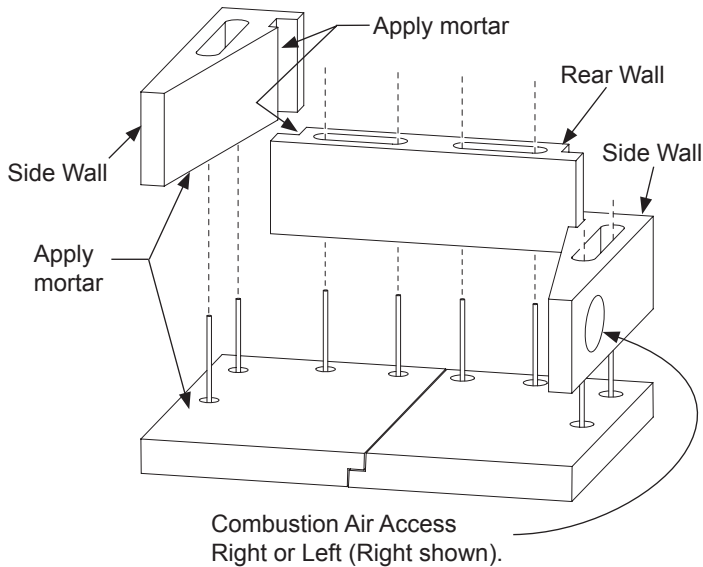

Figure 38 - Layering walls and sides for MM33,39,44,49
6) Assembly the first layer as shown in Figure 38 and 39. Continue to the next layer sides and rear pieces, keeping components moist, mixing mortar as you need it and threading the mortar appropriately as you stack each section, one onto the next. Constantly check for squareness and levelness while building each course of block. As you complete each piece, make certain that you adhere the mortar at each and every joint. See chart below for the number of layers for need for this step.